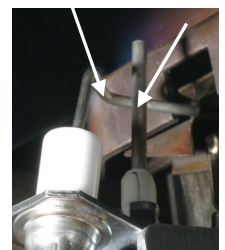

Figure 3
4. Gently bend the ignitor spark probe until the gap distance is approximately ¼" inch between the two points as shown in Figure 3.